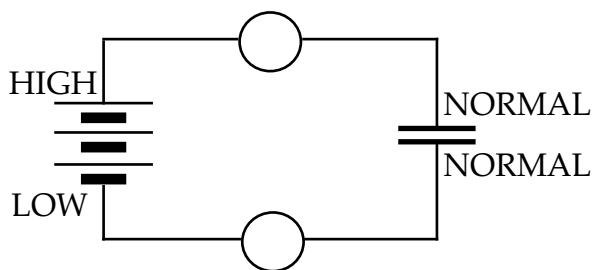

Figure 4.8
Consider a battery described by the model proposed in Activity 4.6. Suppose this battery is connected in a circuit with an uncharged capacitor. Before the circuit is closed, both capacitor plates will have a normal amount of charge. So they will be at NORMAL electric pressure when the circuit is closed as shown in Figure 4.8.
1. Set up the circuit in Figure 4.8 and observe bulb lighting during capacitor charging. According to the proposed model, what makes the top bulb light?